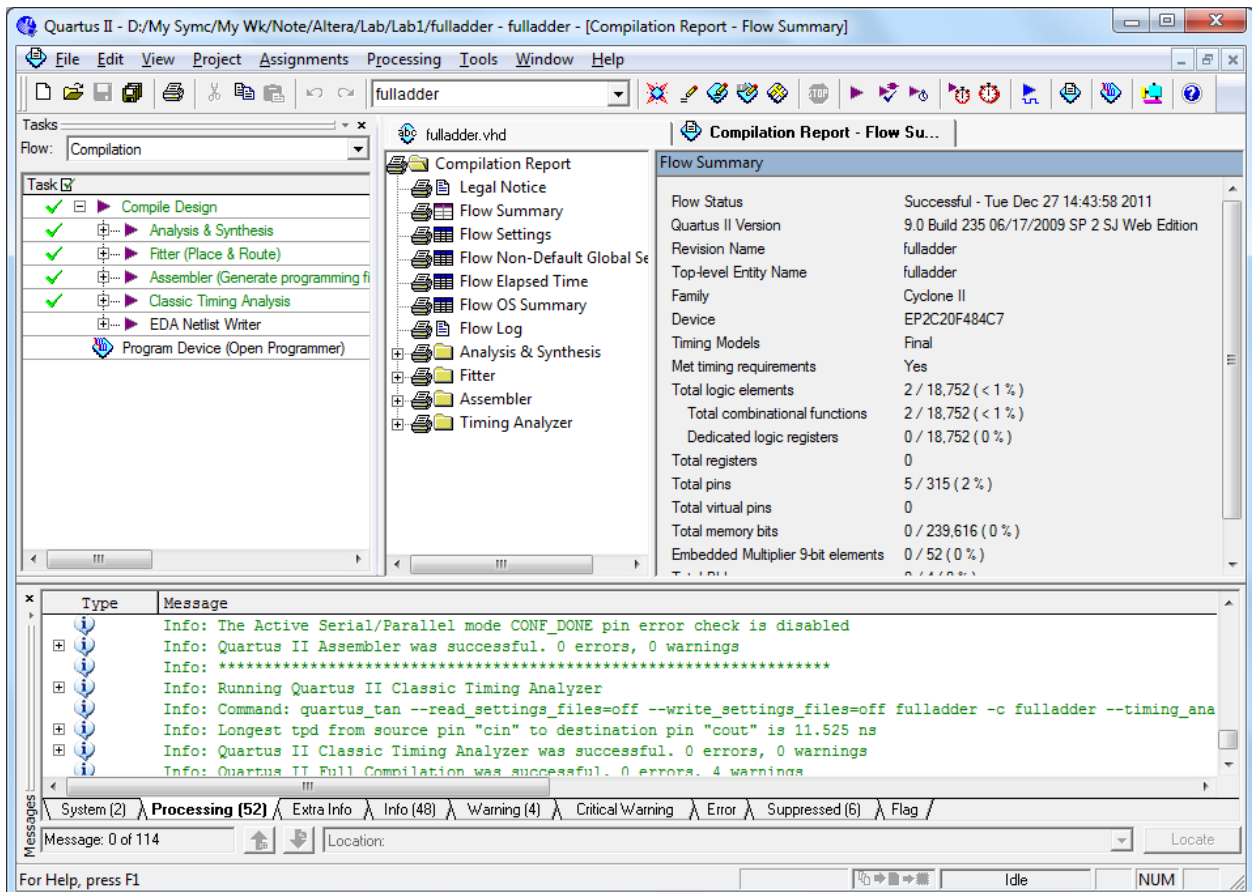

Figure 12: Display after a successful compilation
1. Run the Compiler by selecting "**Processing > Start Compilation**", or by clicking on the toolt  con that looks like a purple triangle. As the compilation moves through various stages, its progress is reported in a window on the left side of the Quartus II display. Successful (or unsuccessful) compilation is indicated in a pop-up box. Acknowledge it by clicking "**OK**", which leads to the Quartus II display in Figure 12. In the message window, at the bottom of the figure, various messages are displayed. In case of errors, there will be appropriate messages given. When the compilation is finished, a compilation report is produced. A window showing this report is opened automatically, as seen in Figure 12. The window can be resized, maximized, or closed in the normal way, and it can be opened at any time either by selecting "**Processing > Compilation Report**" or by clicking on the icon .